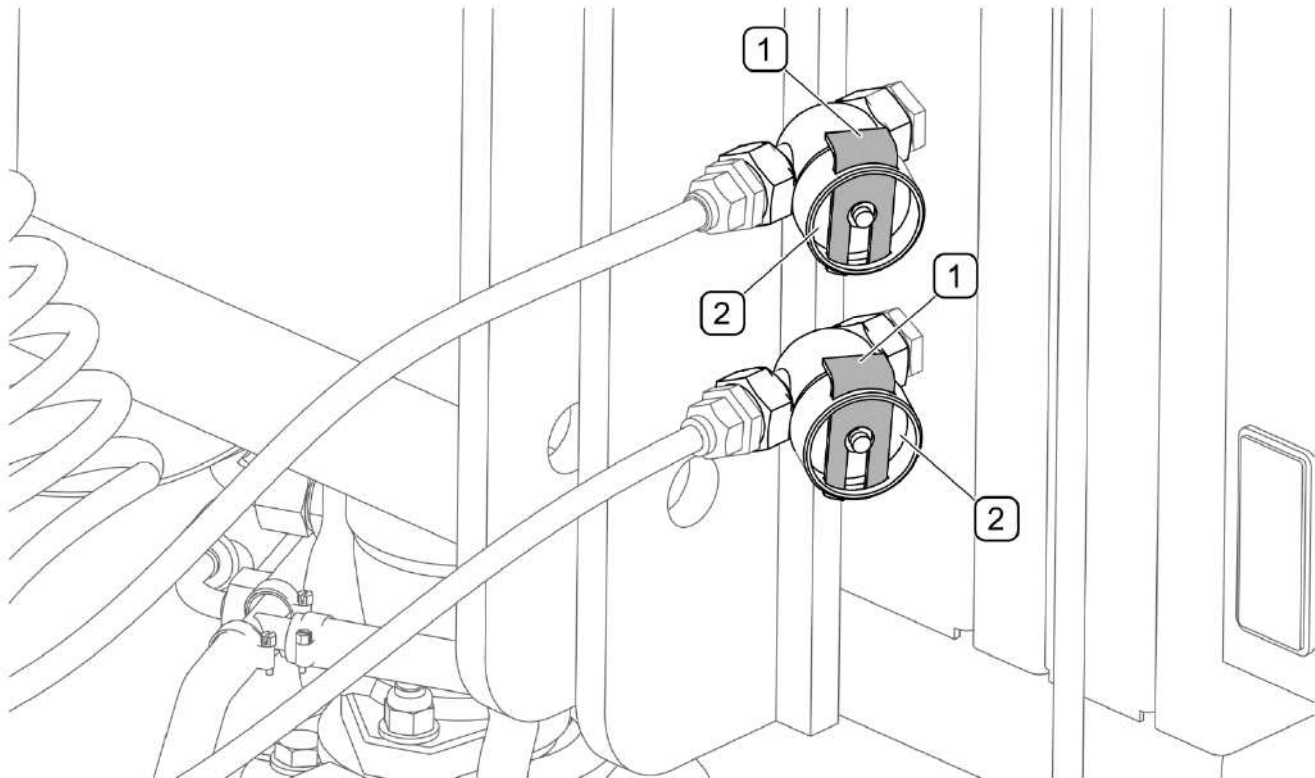

FIG. 5.27 Air filters
(1)- securing slide lock; (2)- air filter cover
Depending on machine working conditions, but not less than once in three months, take out and clean air filter (FIG. 5.27) cartridges, which are located in pneumatic system connection lines. Inserts are used many times and are not subject to changing unless they are mechanically damaged. In order to clean cartridge first reduce pressure in supply line. Next, remove securing slide (1); hold the filter cover with the other hand. After removing slide lock (1), the cover is pushed off by the spring, in the filter housing. The insert and the filter body should be carefully washed out and blown through with compressed air. Install in reverse order.